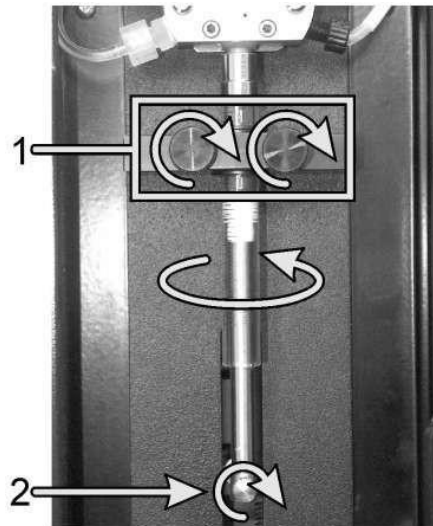

Figure 12.14: Replace the syringe with clamping screw (1) and plunger screw (2)
one circle in the direction shown in Figure 12.14. Do not use any tools to secure or reinforce the syringe. The connection must be tight or air will seep into the system.
7. Tighten the two clamping screws (see 1 in Figure 12.14) to secure the syringe tube. The syringe clamp should be about 10 mm away from the metal end cover.
8. Hand-tighten the plunger-to-arm screw (see 2 in Figure 12.14).